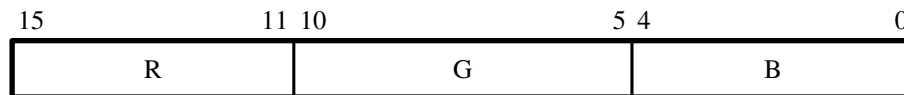

Figure 13. 16-bit RGB Color Space.
- 16-Bit RGB — This format uses 5 bits for red, and 6 bits for green and 5 bits for blue as shown in Figure 13. This mode is defined as 16 bits per color and one color plane.